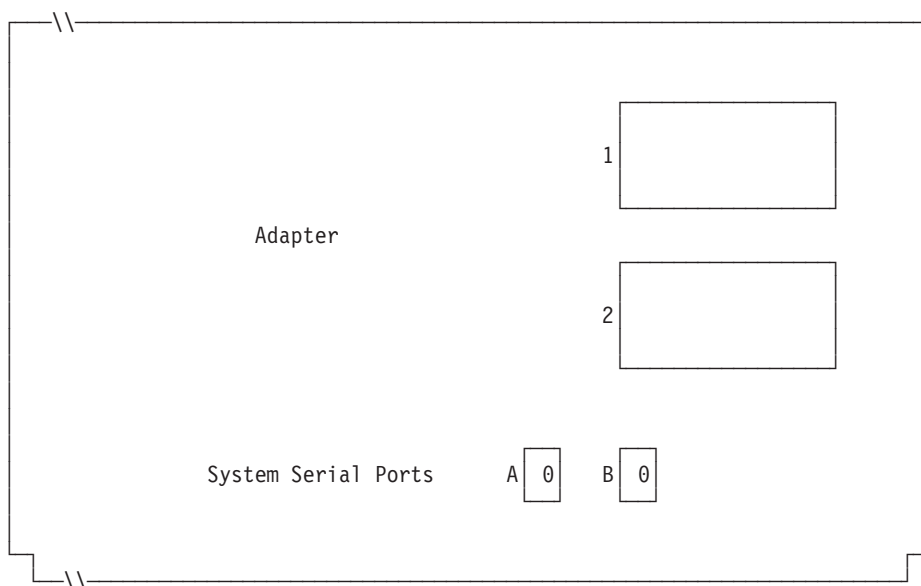

Figure 104. Right Side of Rear of 4694-2x4 or 4694-245 Point-of-Sale Terminal
6. If an asynchronous port is used by terminal applications, write the port number on Figure 104. Use a 0 if a port is not used by the terminal. Valid port numbers are 1, 2, 3, 4.